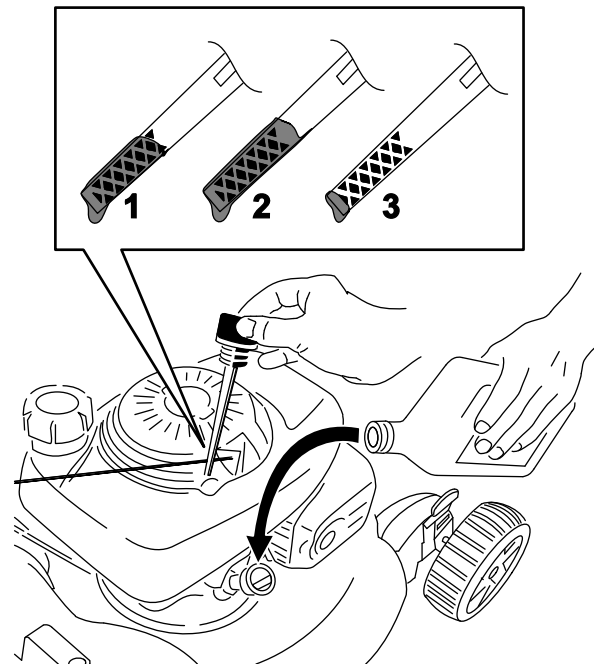

Figure 19
3. Remove the dipstick by rotating the cap counterclockwise and pulling it out (Figure 19).
- Read the oil level on the dipstick (Figure 19).